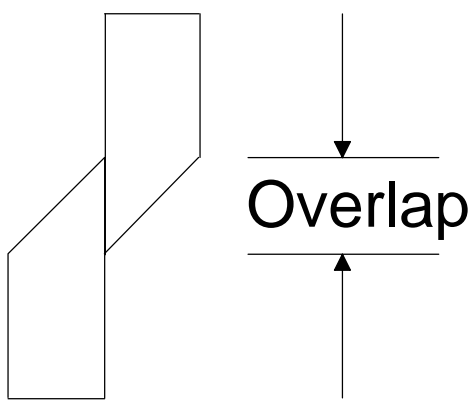

Figure 9.3 Shear blades overlap
- **Blade overlap:** The blade overlap is measured at the bottom dead zero position. It is the distance between the tip of the top blade and the tip of the bottom blade. See Figure 9.3.